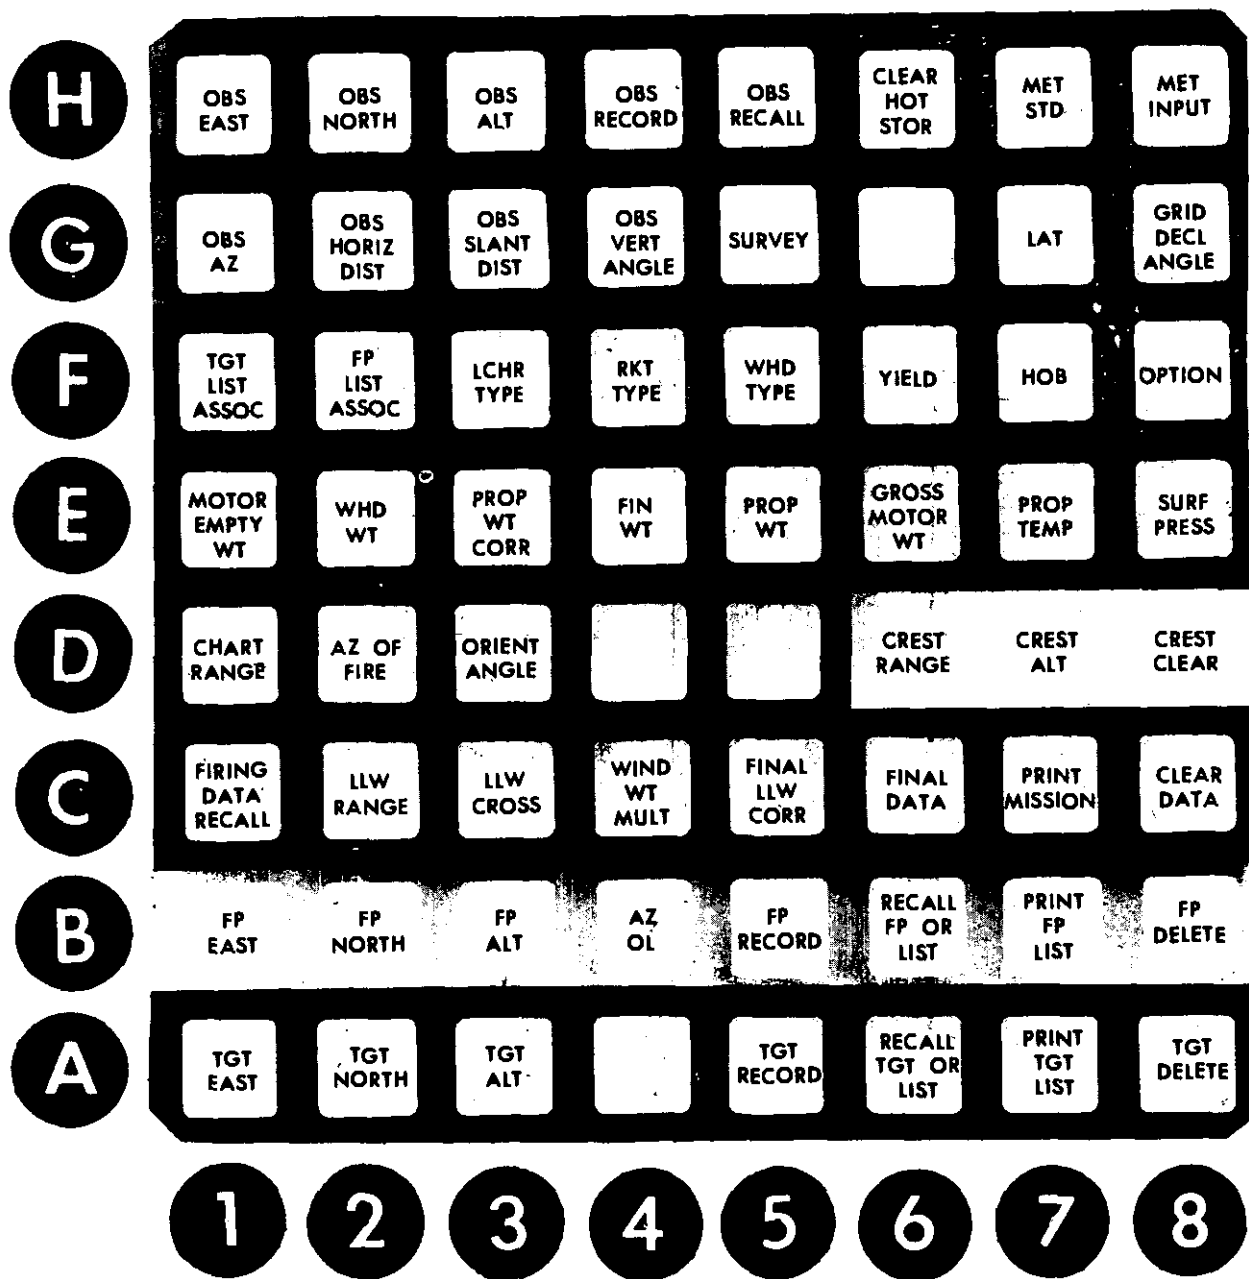

Figure 3. Input selection matrix.
a. The input selection matrix consists of 64 windows. The desired input location on the matrix is selected by depressing two buttons, one numerical button (1-8) in the row below the matrix windows and one lettered button (A-H) in the column on the left side of the matrix. The use of the input selection matrix (fig. 3) is explained in detail for each matrix position in table 1.
- (1) The target information in row A is colored blue.
- (2) The firing point information in row B is colored yellow.
- (3) The information on firing data recall, low-level wind, print mission, and clearance data in row C is colored green.
- (4) Miscellaneous information on the rocket, warhead, ballistic, and orienting data in the left portion of row D and in rows E and F is colored red.
- (5) The crest clearance information in the right portion of row D is colored white.
- (6) The observer and survey information in the left portion of rows G and H is colored gray. One window in row H, CLEAR HOT STORAGE, is colored red.
- (7) The meteorological, latitude, and grid declination information in the right portion of rows G and H is colored green.